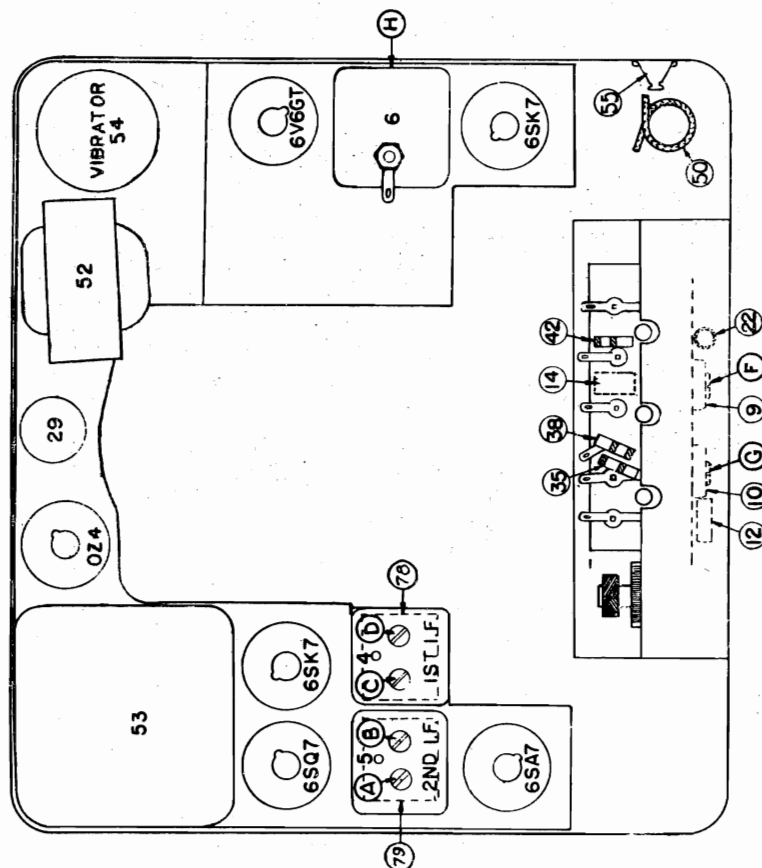
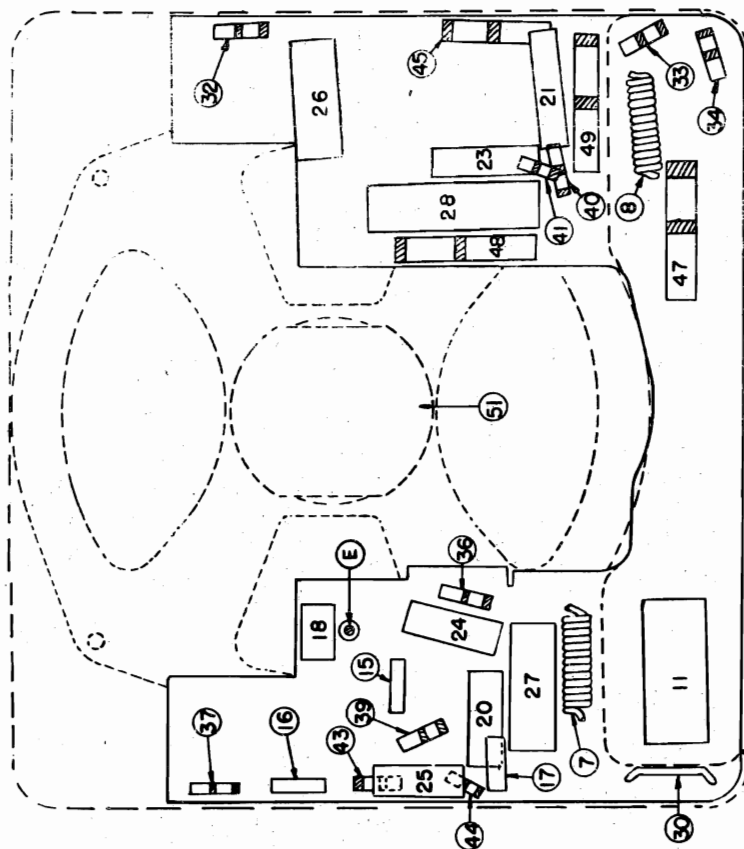

FIG. 3--PARTS LAYOUT--Top View
FIG. 4--PARTS LAYOUT--Bottom View
- (b) Connect the signal lead of the signal generator to the grid of the 6SA7 tube (grid side of resistor #35, Fig. 3) through a .1 mfd. condenser.
- (f) Adjust the I-F trimmers (Illus. A, B, C, D, Fig. 3) and the I-F. core adjustment (Illus. E, Fig. 4) until maximum output is obtained.